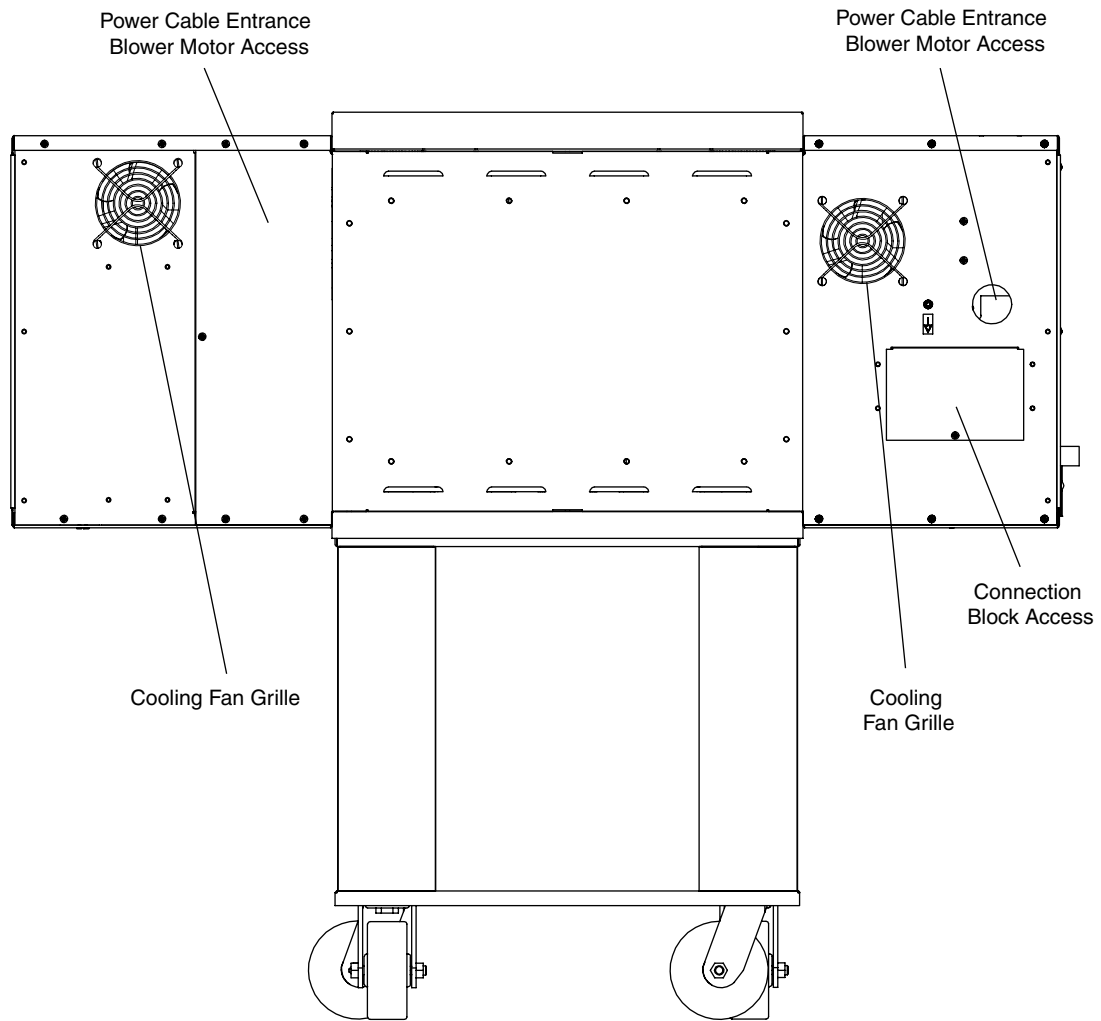

Figure 1-6. Cooling Fan
C. Cooling Fan — See Figure 1-5 and Figure 1-6